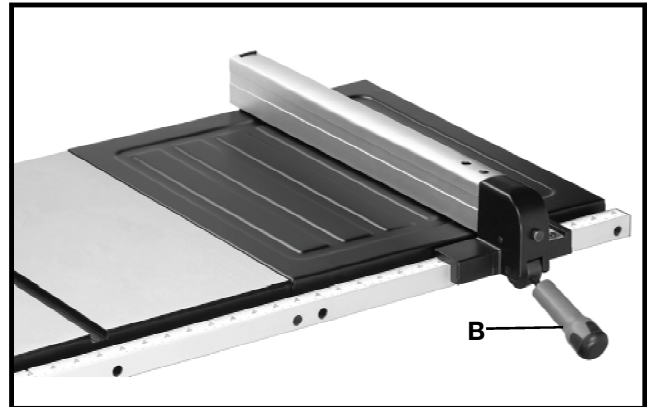

Fig. 22
2. Lower rip fence onto table as shown in Fig. 22, making certain rear clamp hooks over back edge of table.
3. The rip fence is usually operated on the right hand side of the saw table. Lift lock handle (B), and position fence on table. Push downward on handle (B), to lock fence in place on saw table.